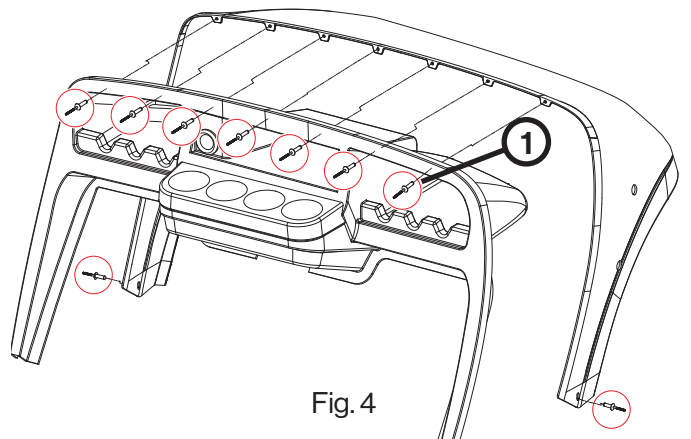

Fig. 4
Drill out the nine (9) rivets (Item 1) that secure the front cowl to the instrument panel. See Fig. 4.